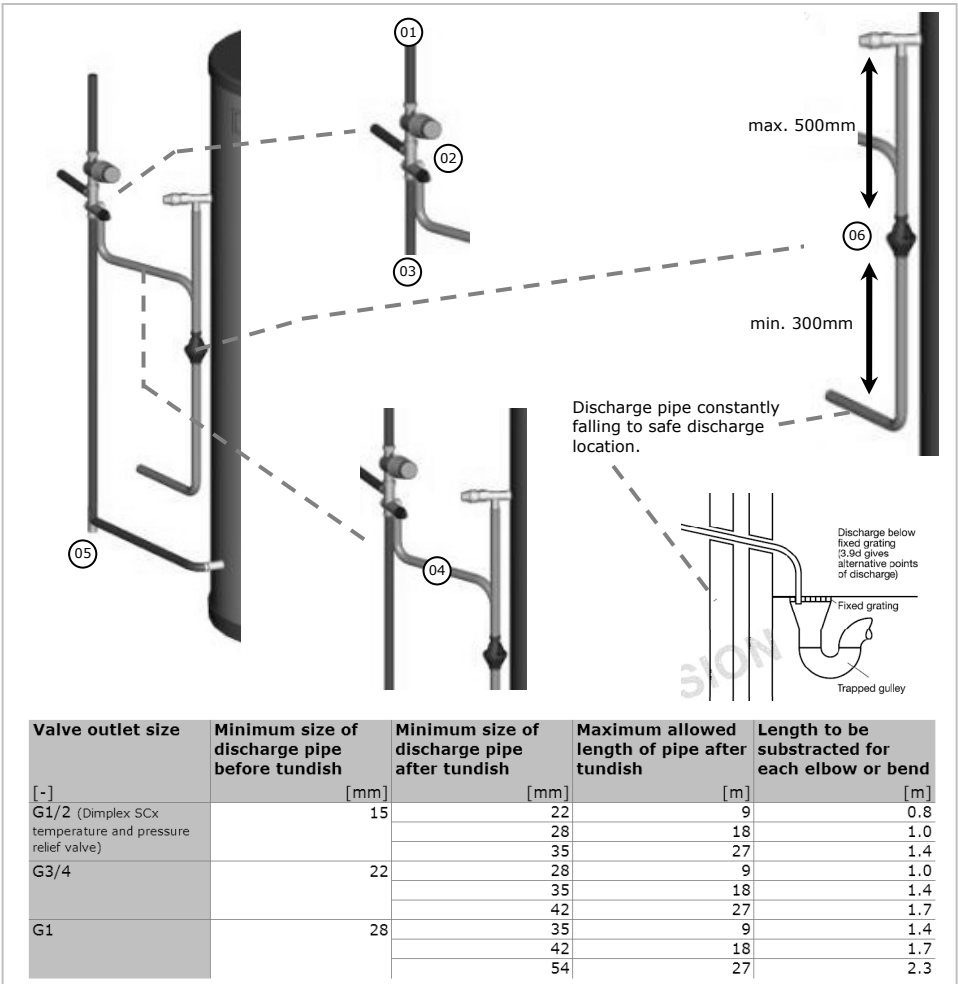

Figure 6 – Cold water supply and discharge pipe work installation
- 4 The discharge pipe work from the expansion relief valve must be installed constantly falling to an open point of discharge. It is recommended to combine it with the discharge of the temperature and pressure relief valve as illustrated in Figure 6. When completing the installation of the discharge pipe work ensure the valve itself is secured by tightening the screw on the side of the assembly. Loosening the screw allows the best possible orientation of the valve.
- 6 The temperature and pressure relief valve must be discharged into the tundish. The sizing of the discharge pipe work is regulated through building regulation G3. An extract is shown in Figure 6.